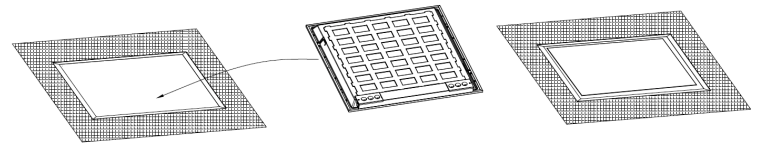

Fig. 11
3. Connect the power cables (Fig. 11)